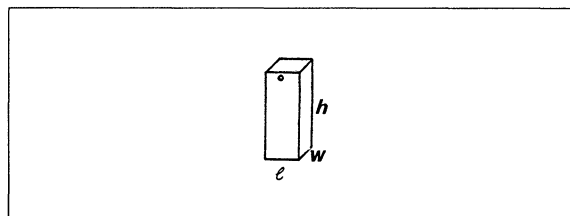

Fig. 1
1. Measure the length ℓ , width w and height h of the aluminium cuboid ► Fig. 1.